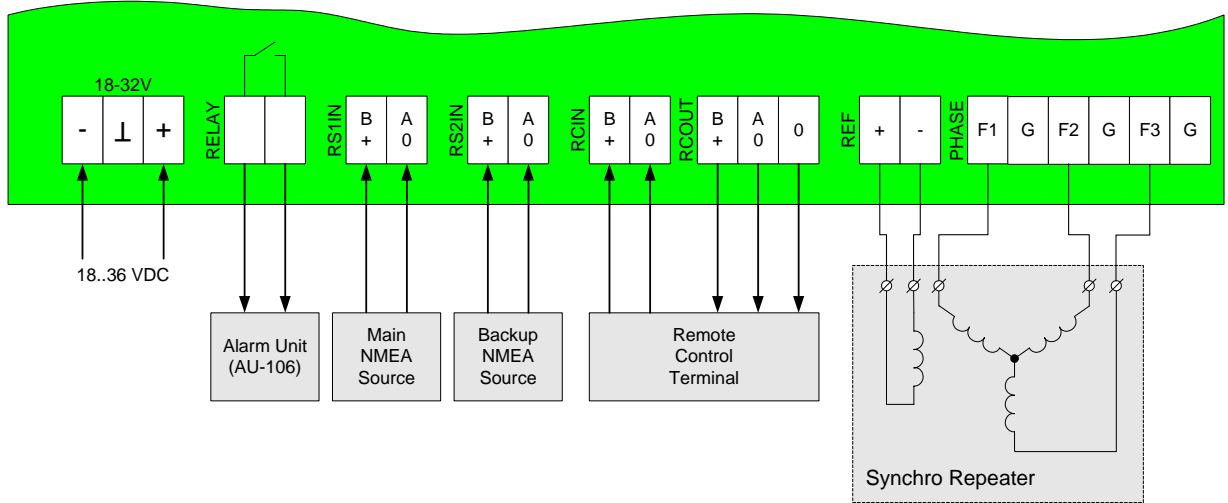

Fig. 3. External devices connection diagram to DAC-109
- f) Lead coupling cables from the external devices and power source. Connect cables to removable terminal blocks in accordance with the diagram (see Figure 2, Figure 3, Figure 4).